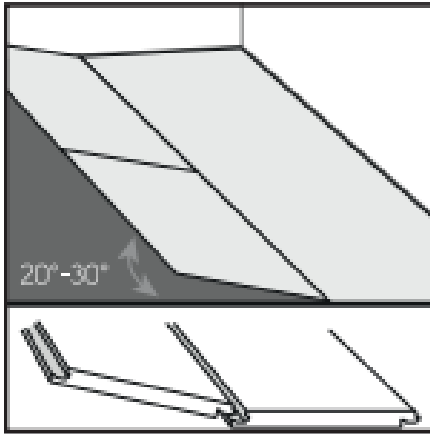
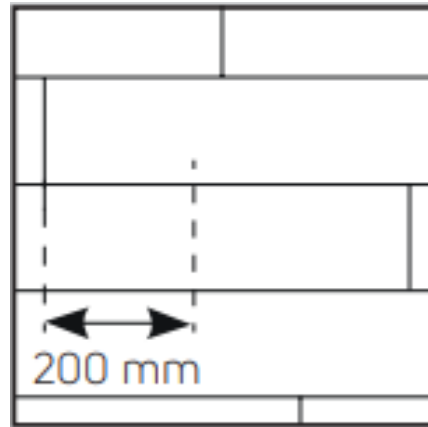
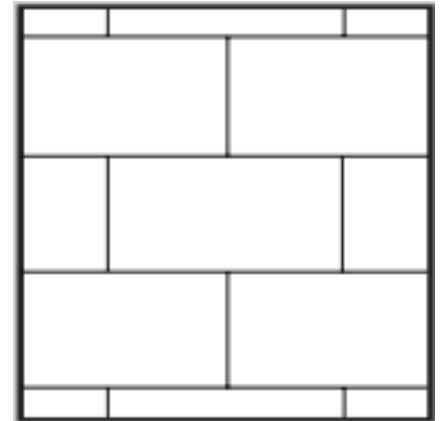

Figure 5
Figure 3
Figure 4
- 4) Start the second row by clicking the tongue into the groove holding the plank at an angle (approximately 30°), then push the plank/tile firmly into the groove of the first row. Install the next plank/tile by clicking the tongue and groove together along the short edge. Ease the tongue and groove together on the long side by angling the planks/tiles together (Fig. 3). Tiles and planks should be installed 'off-set' such that four corners never meet (Fig. 4 and Fig. 5).